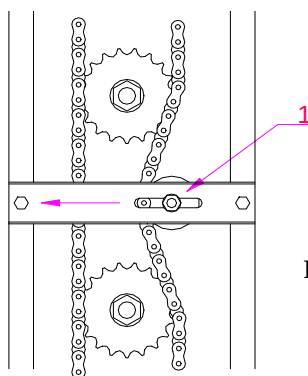

Fig. 9
- Loosen slightly screw (1) fig. 9 and move the tautener to the left. Fasten the tautener again by tightening the screw (1) once the chain is properly tautened.